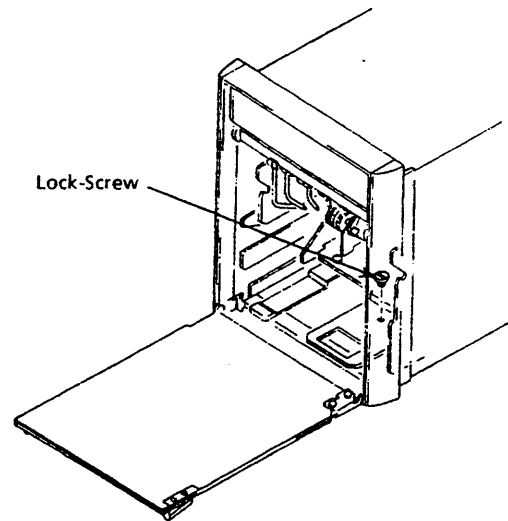

Figure 5.14
- (3) Remove the lock screw (see Figure 5.14).